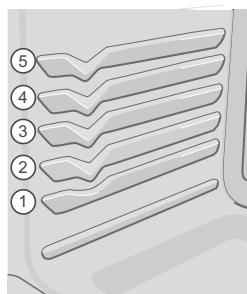

Figure 8: Rack positions
- For best results when baking cakes using two oven racks, place racks in positions 2 and 4 (See Figure 8).